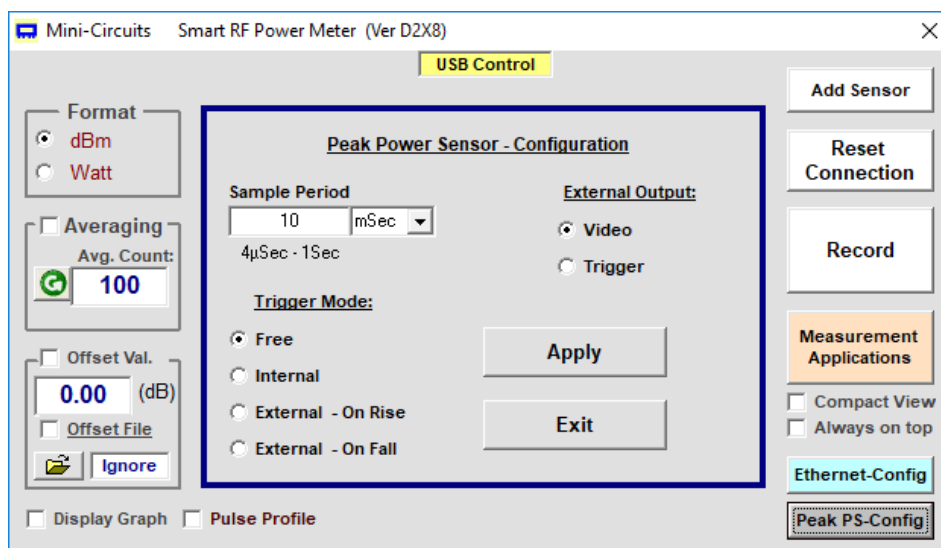

Figure 4.1: Sample Period & Trigger Config. window
Clicking on the 'Peak PS-Config' button in the main screen (Fig 4.1) will cause the central section of the main screen to change to a configuration view. Default settings are sample period of 10 msec, Free mode Trigger in and external output set as video output. Click the 'Peak PS-Config' button to return to measurement mode.
4.1.1 Trigger Options (Fig. 4.1)
4.1.2 Output Options (Fig. 4.1)